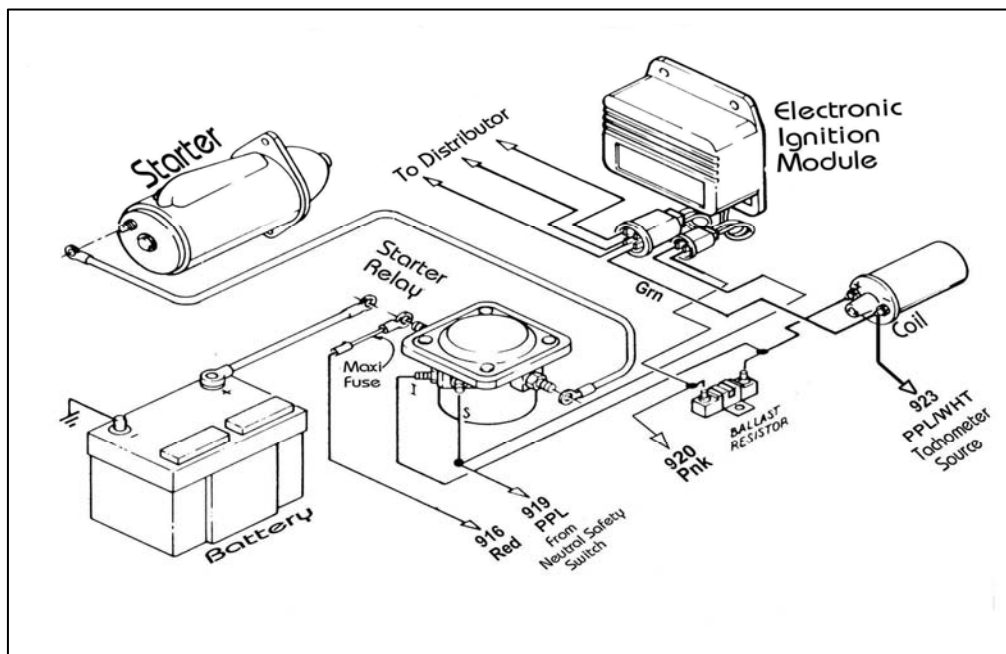

Figure 8.3 Motorcraft Electronic Ignition System
- 8.4.1 Connect the wires of the IGNITION SWITCH SECTION according to **Table 8-1**. **Figure 8-3** represents three (certainly not all) possible Ford ignition switch connector configurations and how they should be wired to the Painless steering column pigtail connector.